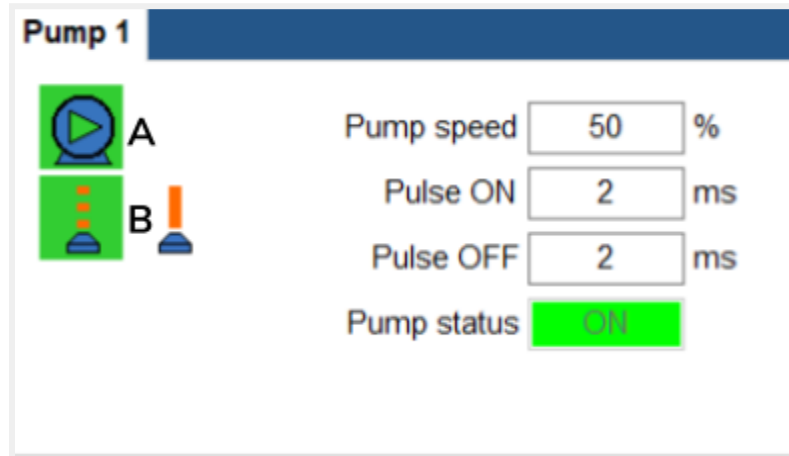

Figure 52.
If the feature is unavailable, set the Pump Speed to 50%, Pulse ON to 2ms, Pulse OFF to 2ms. Turn on Pump (A) and Pulse (B), (Refer to Figure 52). Repeat the sequence 5 times to complete Valve Priming.